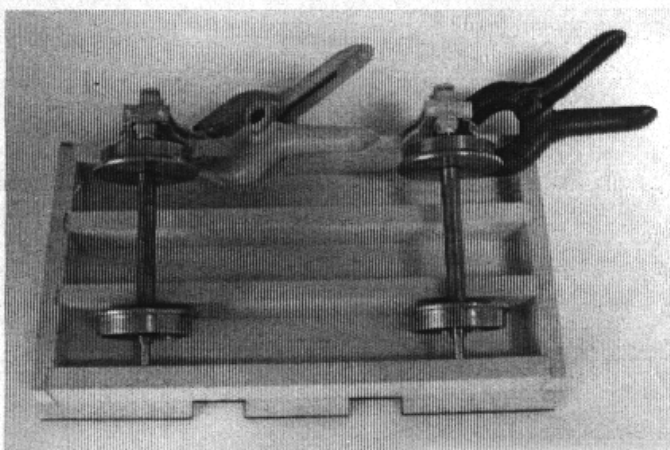
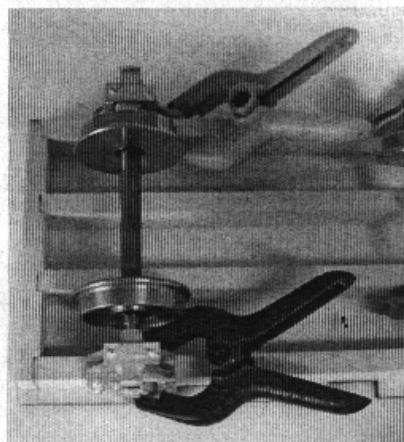

Figure 7
Figure 8
- 8) Now, insert the axels into the flat lid journals (fig 7) and then glue the journals onto the other side. **NOTE: it is important that the journals are glued on exactly across from each other so the wheels will run smooth and true.** See figure 8